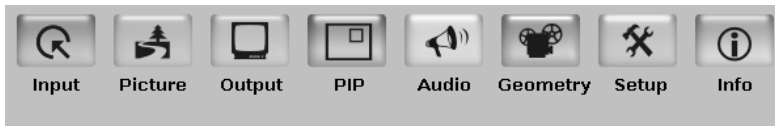

Figure 8: MENU Items
- Press the MENU front panel OSD button or the MENU key on the infrared remote control transmitter (see Figure 7) to display the main MENU screen1, which displays eight interactive icons (see Figure 8)